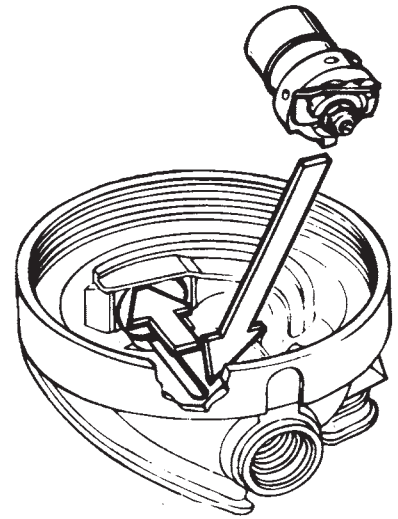

Figure 5
6. Align the tab on the insert with the channel just above the exhaust port in the case (item 24) and slide it into the case until the female threaded end is flush with the boss on the case. *Figure 5.*
7. Lightly lubricate the first two threads of the inlet fitting (item 27). While depressing the lever (item 15), thread the inlet fitting into the insert assembly you installed in the case. Tighten the inlet fitting to 50 inch-pounds. Release the lever.